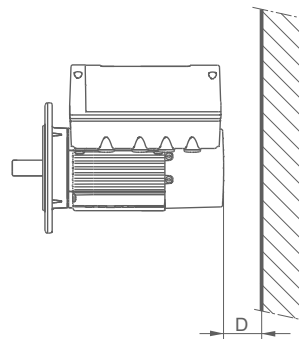

Fig. 14 Minimum distance (D) from the motor to a wall or other fixed objects
Note *In order to ensure sufficient cooling of the motor, the distance (D) between the end of the fan cover and a wall or other fixed objects must always be at least 2.0" (50 mm), irrespective of motor size. See fig. 14.*